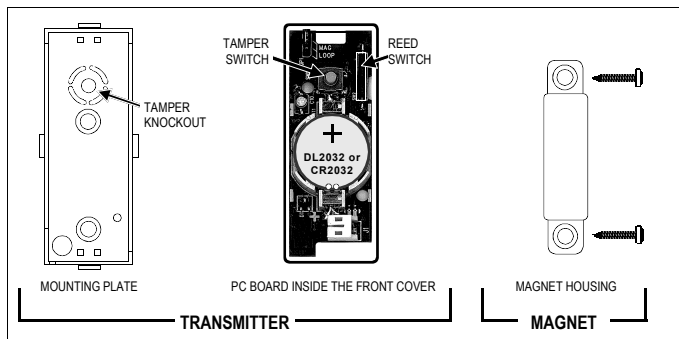

Fig. 1. GEMC-WL-WD Component Parts
in this text, the transmitter will be considered oriented with the reed switch at the top, as shown in Fig. 1. The PC board is factory installed in the transmitter front cover **and must not be removed**. A raised alignment mark on the transmitter front cover indicates the location of the reed switch on the PC board. There is also an alignment mark on the plastic magnet housing.
- Select transmitter location.** Avoid mounting the transmitter near the floor. Low level mounting can reduce transmission range and may subject the transmitter to damage. Use the mounting plate as a template to mark the location of mounting holes. If the **tamper switch** is to be used, remove the Tamper Knockout from the Mounting Plate (see Fig. 1) and use the mounting plate as a template to mark the location of this Knockout hole. Screw in a #6 flat-head screw such that the head of the screw protrudes through the Knockout hole when the Mounting Plate is installed. Adjust the height of the screw to allow the screw head to contact and close the Tamper Switch when the front cover is installed into the Mounting Plate. The Tamper Switch is held closed by the screw head and signals a tamper when the Front Cover is removed and the switch is opened. **Note:** The Tamper Switch is required for Commercial applications.